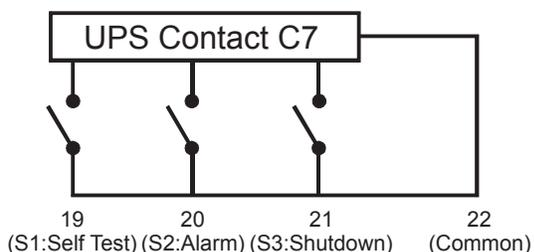
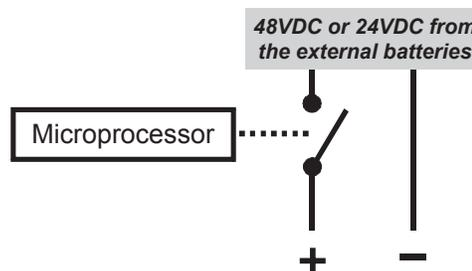

Figure 1.3.5A
Figure 1.3.5B
- User I/P (C7):** This relay has 3 contacts to control the UPS (Figure 1.3.5A). They are:
- 22 (C):** Isolated return for contacts S1, S2 and S3.
- ATS (C8):** When the UPS is in Inverter mode, this normally open relay closes (Figure 1.3.5B), sending 48VDC (FXM 1100/1500/2000) or 24VDC (FXM 500) from the external batteries to this dry contact. If the optional Alpha Technologies's Automatic Transfer Switch (ATS) is connected, this causes the ATS to switch the load from line power to the UPS's battery backup power.